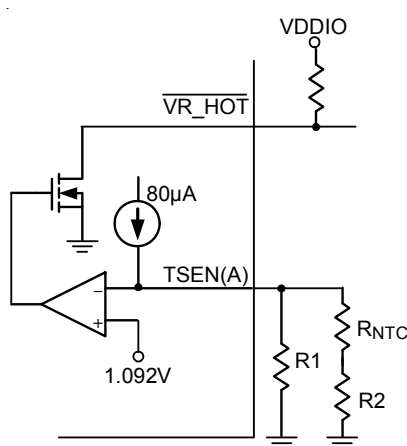

Figure 8. VR_HOT Circuit
The VR_HOT signal is an open-drain signal which is used for VR thermal protection. When the sensed voltage in TSEN(A) pin is less than 1.092, the VR_HOT signal will be pulled-low to notify CPU that the thermal protection needs to work. According to Intel VR definition, VR_HOT signal needs acting if VR power chain temperature exceeds 100°C. Placing an NTC thermistor at the hottest area in the VR power chain and its connection is shown in Figure 8, to design the voltage divider elements (R1, R2 and NTC) so that VTSEN(A) = 1.092V at 100°C. The resistance error of TSEN network is recommended to be 1% or smaller.